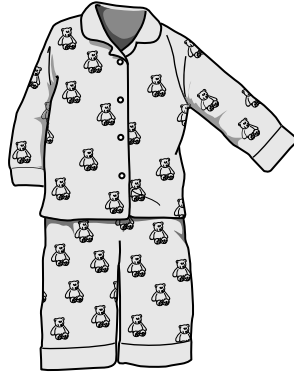

Fig. 11
Fig. 11 shows a pair of children’s pyjamas suitable to be worn in winter.
(a) Give **four** justified design requirements for pyjamas of the type shown in Fig. 11.
- (e) (i) State a **suitable specific fabric** for the pyjamas shown in Fig. 11.